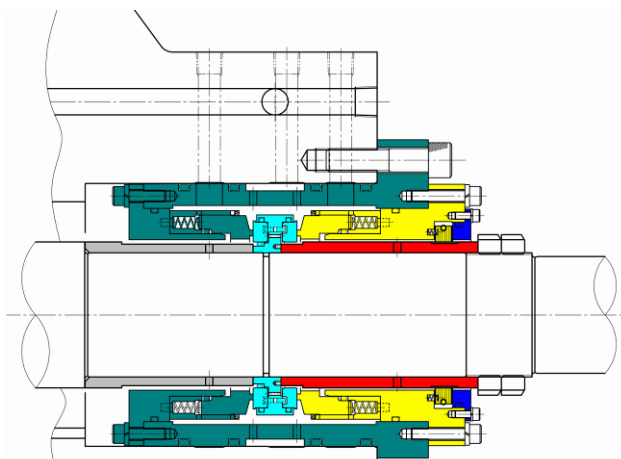
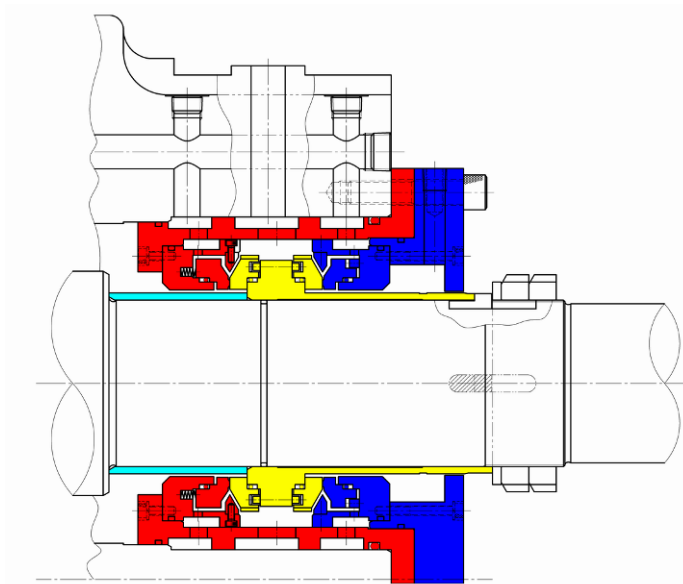

Figure 5-3 GH250S/L Shaft Seal
Figure 5-5 GH320S Shaft Seal
Figure 5-3 is assemble type and Figure 5-4 is cartridge type. There is no superiority or inferiority between two types as for features and the durability. Also, there is compatibility mutually.
- b) Remove the coloring part shown in Figure 5-3, Figure 5-4 and Figure 5-5 in the following order; that is, dark-blue part, yellow part, red part, light-blue part, green part, ash part.
Shaft seal of GH320S is only one kind of mechanical seal assembly that is a assemble type shown in Figure 5-5.